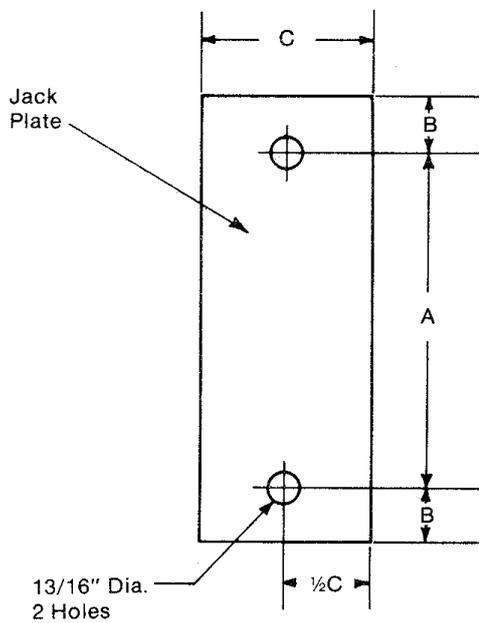
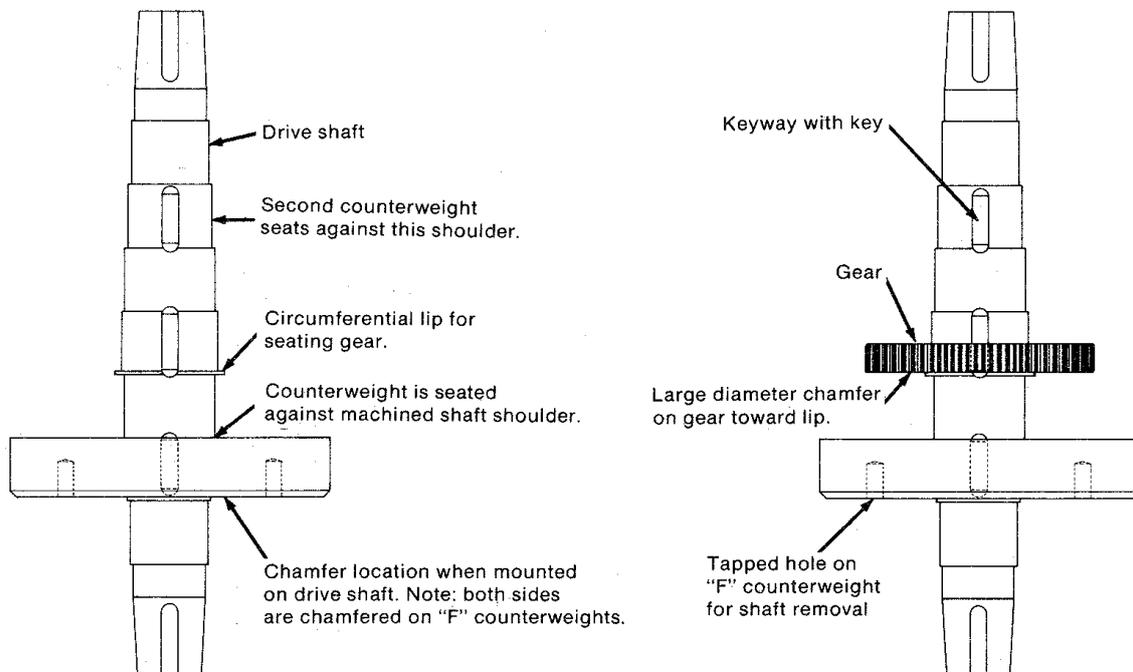
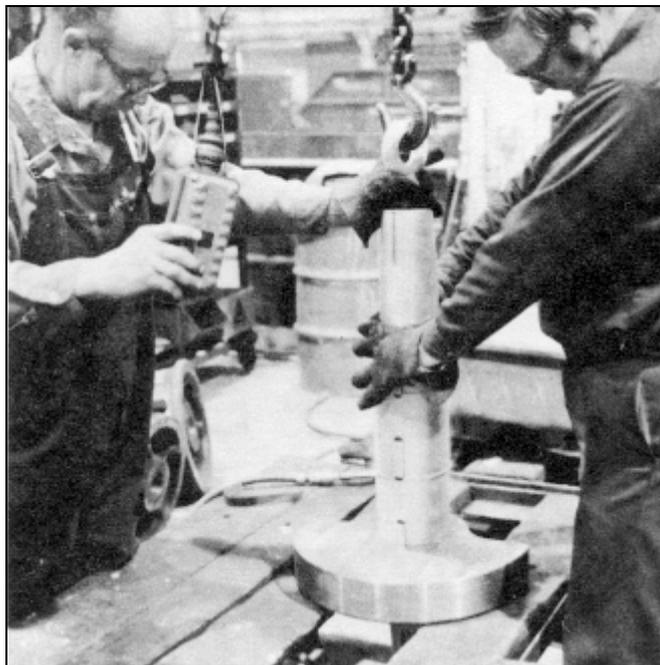
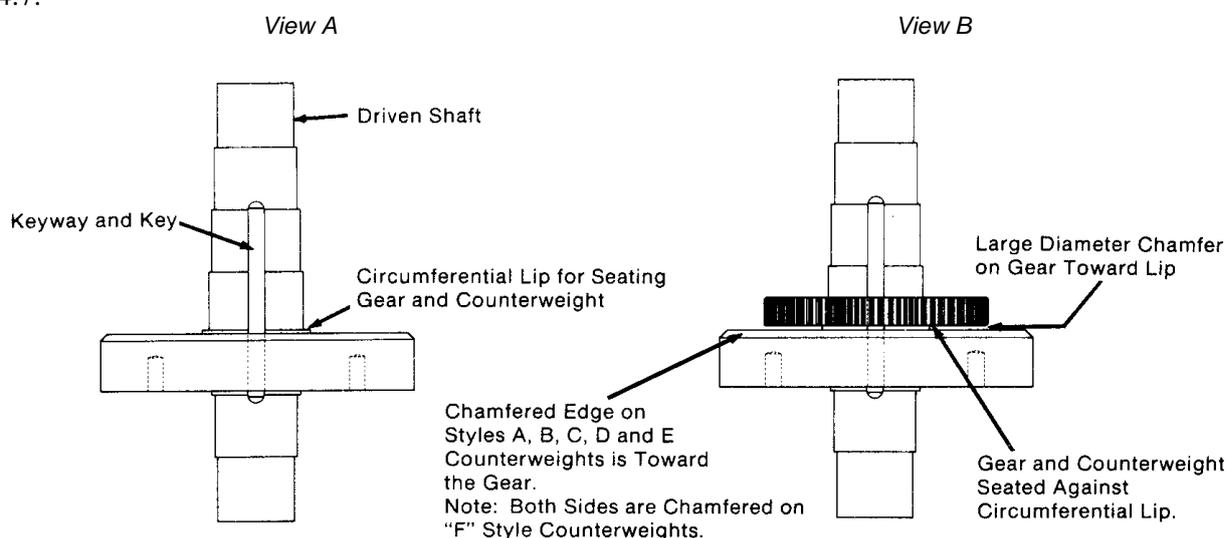

Figure 4.3 Method of pulling 'F' type counterweight off shaft.
Figure 4.4 Mechanism shaft (key features)
Figure 4.5 Arrangement for assembling counterweight on shaft.
Figure 4.7 Installation of second counterweight and gear on driven shaft.
Do not press the "F" counterweights off the shaft. Use pull rods, installed in tapped holes located in "F" counterweight hubs, to remove them. See Figure 4.3 and Figure 4.4.
15. The largest diameter on a mechanism shaft has a circumferential lip against which the gear is located (See Figure 4.4). To remove a worn gear, use a 100 tonne capacity press and press the bearing counterweight and gear off the gear side of the lip.
See Figure 4.4 and Figure 4.7 for lip locations on drive and driven shafts.
Remove one of the heated counterweights from the heat source and locate it horizontally on blocks, or a table top, as shown on Figure 4.4 and Figure 4.5. There must be provision for the drive shaft to extend below the counterweight after it is mounted in the counterweight bore. Place the counterweight for assembly with the chamfered side down. This will assure that the chamfered side of each counterweight will face toward the drive shaft bearings, and away from the gear, when the mechanism drive assembly is completely assembled.
Assemble Style "F" counterweights so that the tapped holes in one face are away from the gear, and accessible for use in pulling the counterweight off the shaft. See Figure 4.3.
Install a lifting eyebolt in the tapped hole in one end of the drive shaft. See Table 4.1 for eyebolt dimensions. Lift the shaft into position over the heated counterweight and lower it through the bore until the machined shoulder of the shaft contacts the counterweight solidly with the chamfered side away from the gear location. See Figure 4.4. Note the exception for Style "F" counterweights in Step 1 above. Remove one of the heated gears from the heat source and assemble it on the drive shaft up against the circumferential lip. See Figure 4.4. Be sure to place the gear on the shaft so that the large chamfer in the gear bore is against the circumferential lip on the shaft.
Next, prepare to install the counterweights, gear and bearing parts on the driven shaft. Locate one of the heated counterweights on blocks, or a table, as shown on Figure 4.7 and similar to the arrangement pictured on Figure 4.5. There must be a provision for the shaft to extend below the counterweight after it is mounted in the counterweight. Place the counterweight with the chamfered side up for installation on the driven shaft. See Item 1 for style "F" counterweight exception.
Install a lifting eyebolt in the tapped hole in the end of the driven shaft farthest from the circumferential lip on the shaft. See Table 4.1 for eyebolt dimensions. Lift the shaft into position over the heated counterweight and lower it through the bore until the circumferential lip of the shaft contacts the counterweight solidly, with the chamfered side up, and toward the gear location. See View "A" Figure 4.7.